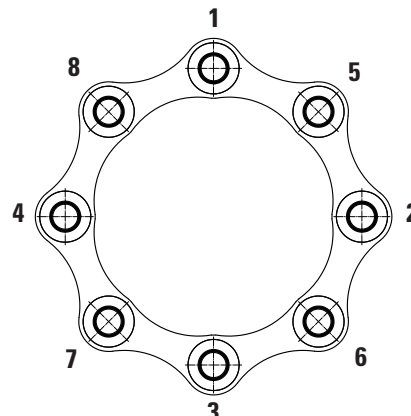

Figure 13
- 7.10 Slightly tighten all locknuts using an alternating progressive pattern on each disc pack as shown in Figures 13 and 14 making sure the disc pack is not distorted and all the bolts are fully seated. Tighten each locknut to the appropriate torque value shown in **Table 6**, using an incremental torque in a progressive alternating pattern as shown in Figures 13 and 14.